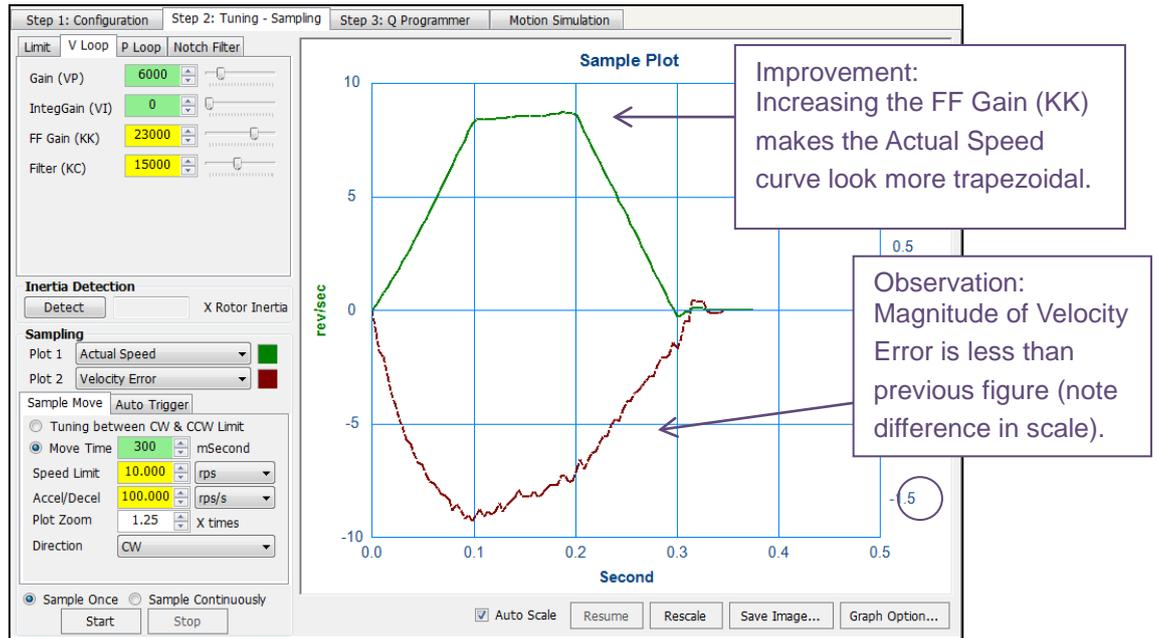

Figure 6.3.3b: Actual Speed profile looks more like a trapezoid shape with increased FF Gain
- When the Actual Speed curve starts to have sharpened corners, then begin to increase KI along with KK gradually in an effort to minimize *and* stabilize the Velocity Error (see **Fig. 6.3.3b & 6.3.3c**)
- ii. Reduce the Filter (KC) value if the motor begins to make noise